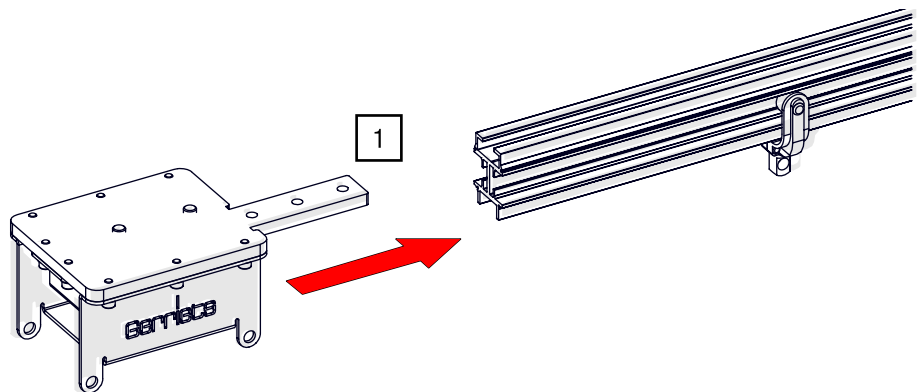

Fig. 67: BELT-TRACK deflection unit – Slide web into track profile
1. Slide the deflection unit onto the track profile (see Fig. 67).